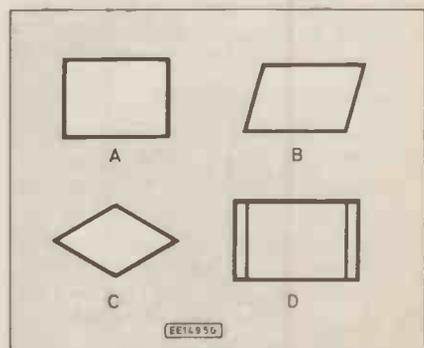

Fig. 9.10. See question 28.
28. (6.2.3) Which one of the flowchart symbols shown in Fig. 9.10 represents a subroutine?